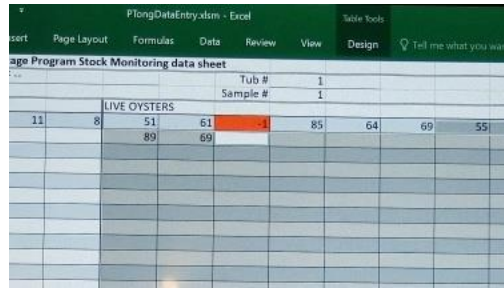

Figure 9: Red highlighted field with a -1 (result of hitting the ERROR key)
- ERROR – hitting this key, voids the last entry and enters a -1 in the field (highlighted in red; see Figure 9)